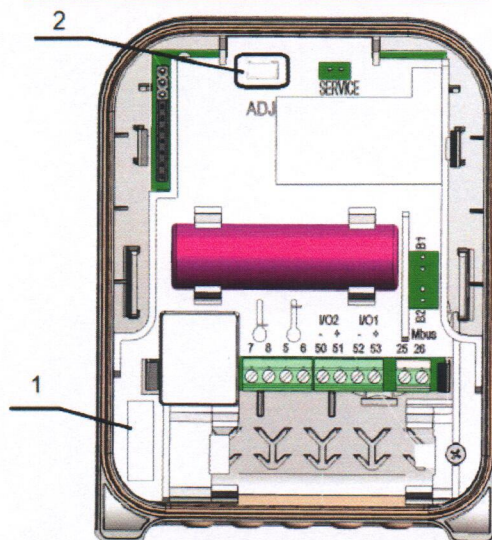

Fig. 5. Additional sealing of the combined device calculator
For the combined device, additional metrological seals shall be used to seal access to the protective cap mounting screw (Fig. 5, pos. 1) and the activation contacts for the adjustment data if the protective screen (Fig. 5, pos. 2) has been broken.